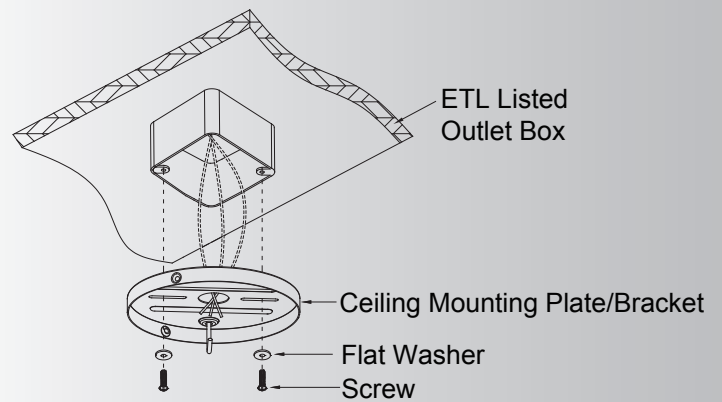

Fig. 4
Step 1. Pass the 120 Volt supply wires from the ceiling outlet box through the center of the mounting bracket. Securely attach the Ceiling Mounting Plate/Bracket to the ceiling junction box as shown. (Fig. 4)